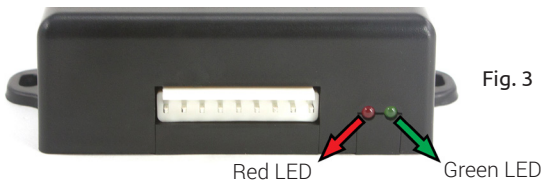

Fig. 3
Step 6. Verify the receiver has power. This can be verified by observing if the Red and Green LEDs are illuminated. See Fig. 3.